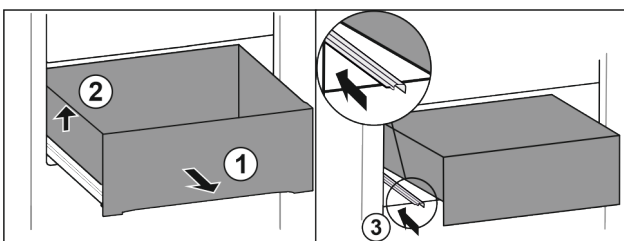

Fig. 106
- ▶ Pull out drawer as far as it will go. Fig. 106 (1)
- ▶ Lift drawer on the left. Fig. 106 (2)
- ▶ Insert left rail. Fig. 106 (3)